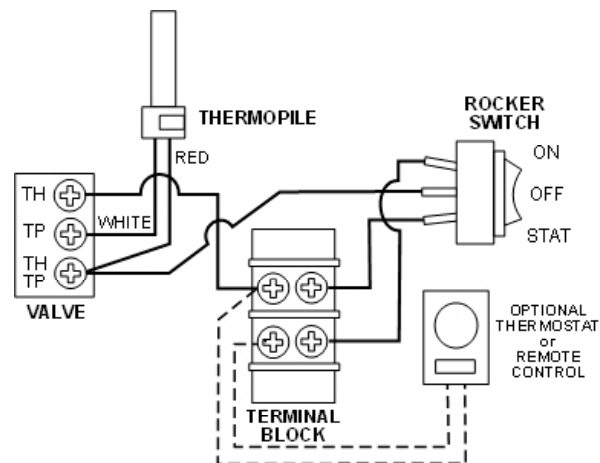

Figure 7.7. Accessory control wiring diagram.
4. Connect the Receiver leads to the valve terminal block as shown in fig. 7.7.
- Connect each thermostat lead to either of the two open terminal block connectors located on the back of the control panel. Do not overtighten the connections. See fig. 7.7.